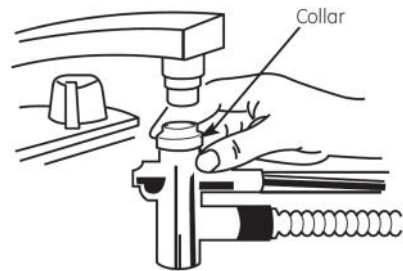

Fig. 11a
- ⇒ Release the locking collar. The quick connect adapter should now be locked onto the faucet adapter. (Fig. 11a)